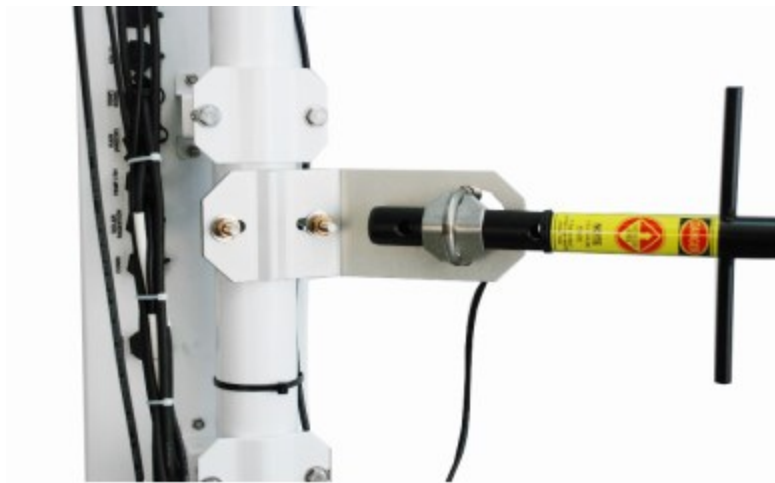

FIGURE 6-33. Yagi antenna mounted to saddle bracket
- b. If the Yagi antenna at the station is communicating with an omnidirectional antenna at the base, align the tines on the Yagi antenna so they are vertical (FIGURE 6-33 (p. 50)). If two Yagi antennas are used at both ends of communications, align the tines the same. If interference is a concern, align the tines on the two Yagi antennas horizontally instead of vertically. This will put the signal out of phase with other antennas that are aligned vertically.